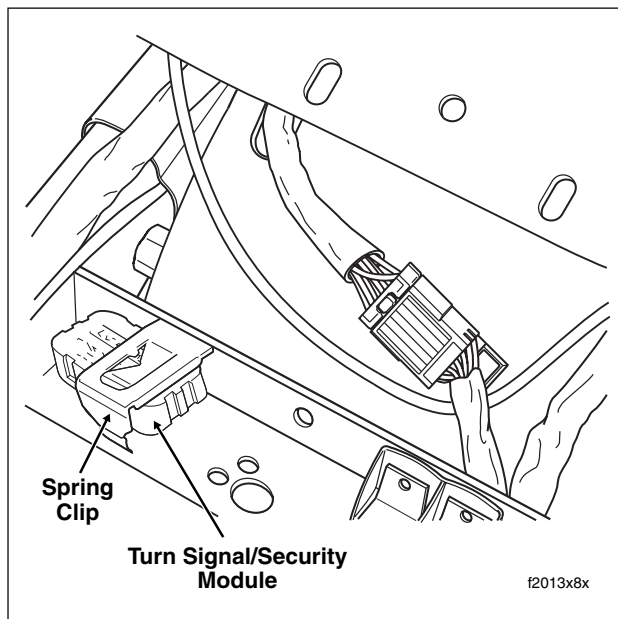

Figure 8-60. Turn Signal/Security Module
2. Depress tab at front of spring clip and lift to release legs from holes in frame crossmember at rear of battery box. See Figure 8-60.